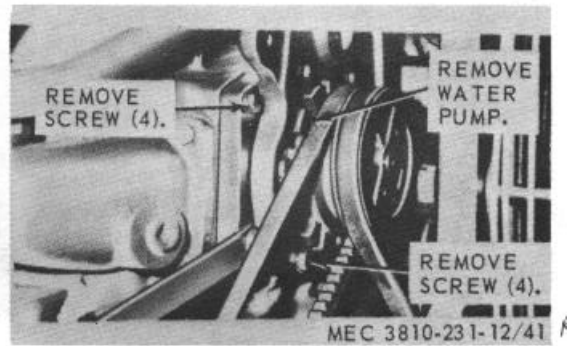

Figure 41. Water pump assembly, removal and installation.
(3) Remove the water pump assembly as instructed in figure 41.
- (1) Install the water pump as instructed on figure 41.
- (2) Install the fan and fan guard (para 82).
- (3) Refill cooling system.